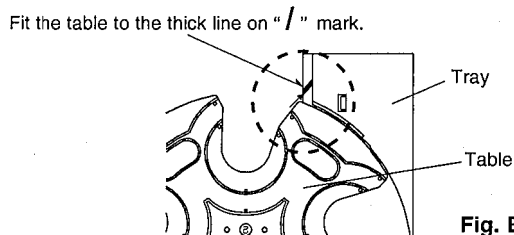

Fig. B-2
- 3) Install the Table by aligning it to the thick line on "/" mark. (Fig.B-2)